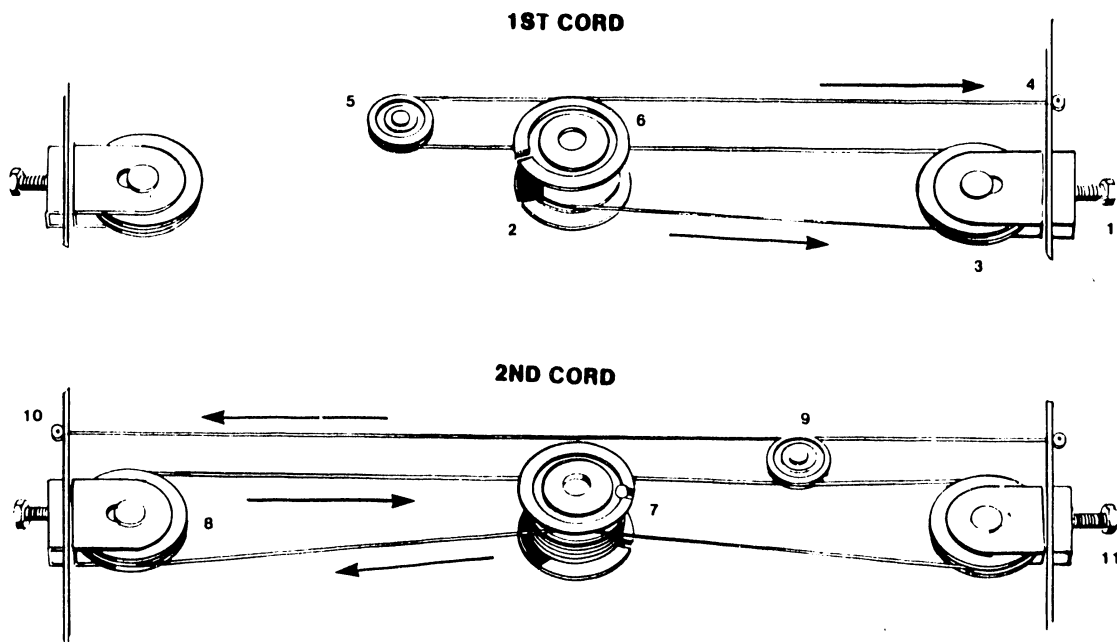

FIGURE 5-51 CORD REPLACEMENT
3. Loosen the cord tension by removing the screw, (1) of Figure 5-51.
4. Put the ball end of the cord in the bottom hole of the carriage hub, (2).